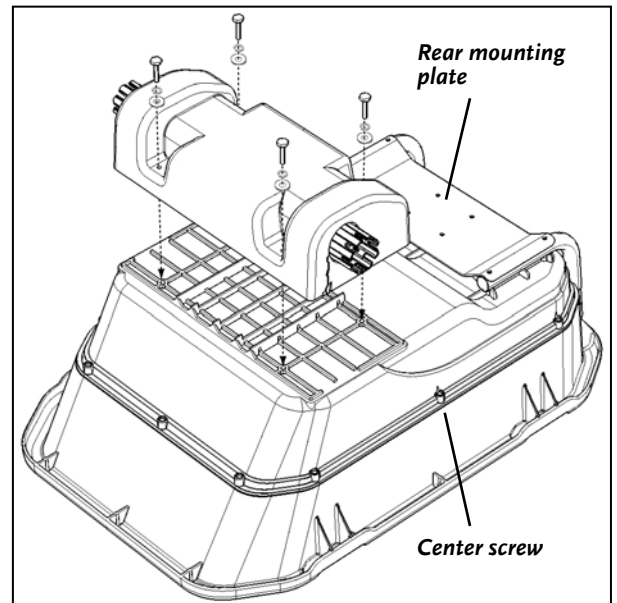

Figure 2. Attaching the drive train.
- Lift the drive train assembly and place it onto the lower bucket (**Figure 2**).
- Open the green hardware bag. First place a 1/4" lock washer on the 1/4" x 1-1/2" screw, then a 1/4" small flat washer. Insert the screws and washers through each of the holes (**Figure 2**).